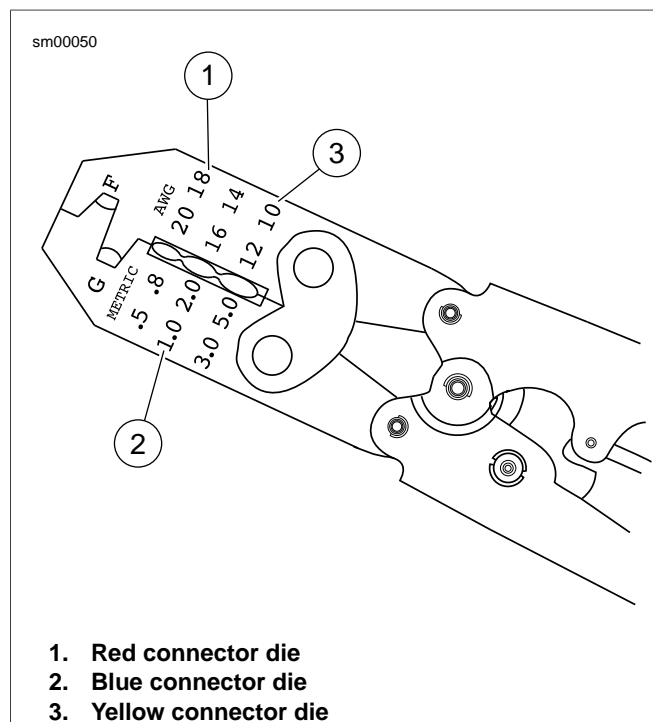

Figure A-47. Packard Crimping Tool (HD-38125-8)
- See Figure A-47. Open the PACKARD CRIMPING TOOL (Part No. HD-38125-8) ratchet by squeezing the handles closed.